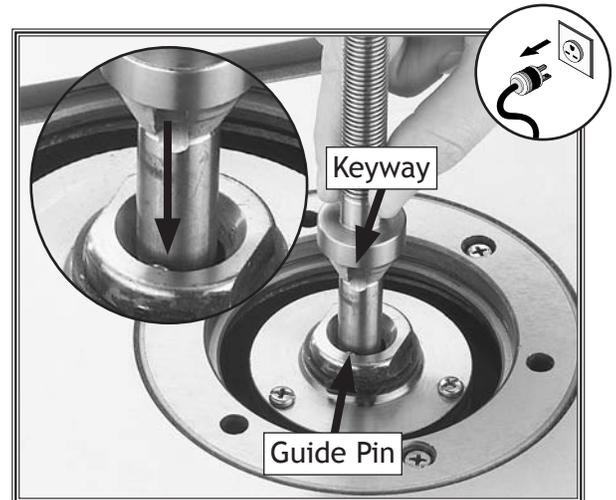

Figure 36. Aligning spindle keyway with the guide pin.
3. Insert the spindle/drawbar assembly partially into the spindle cartridge, align the spindle keyway with the cartridge guide pin, as shown in **Figure 36**, then fully seat the spindle into the cartridge.